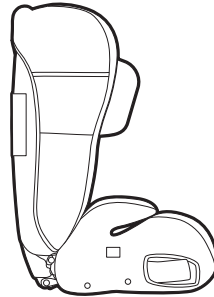

Figure 1
- Step 1:** Unclip the press studs on the side of the seat base (refer Figure 1).